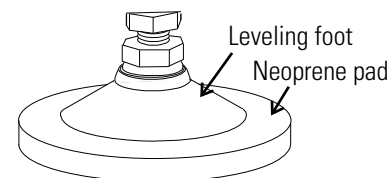

Figure 1-3. Leveling Feet
2. Install the neoprene pads under each of the units leveling feet (Figure 1-3).